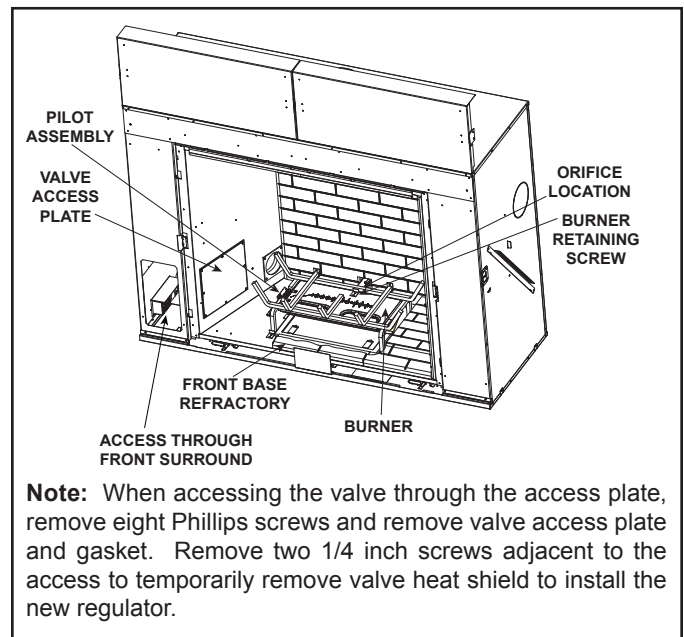

Figure 3 Appliance Shown with Top, Left Hand Side, Left Hand Base Refractories Removed
4. Remove the logs from the appliance. Remove top and bottom left refractory. Remove left side refractory to expose valve access plate. See Figure 3.
NOTE: The valve may be accessed alternatively through the front left surround. See Figure 3. This method of access may only be used if the appliance is being converted prior to installing the non-combustible material pieces supplied with the appliance.
9. Remove the two screws holding pilot mounting bracket to burner. Remove burner retaining screw at the back rear grate. See Figure 3.